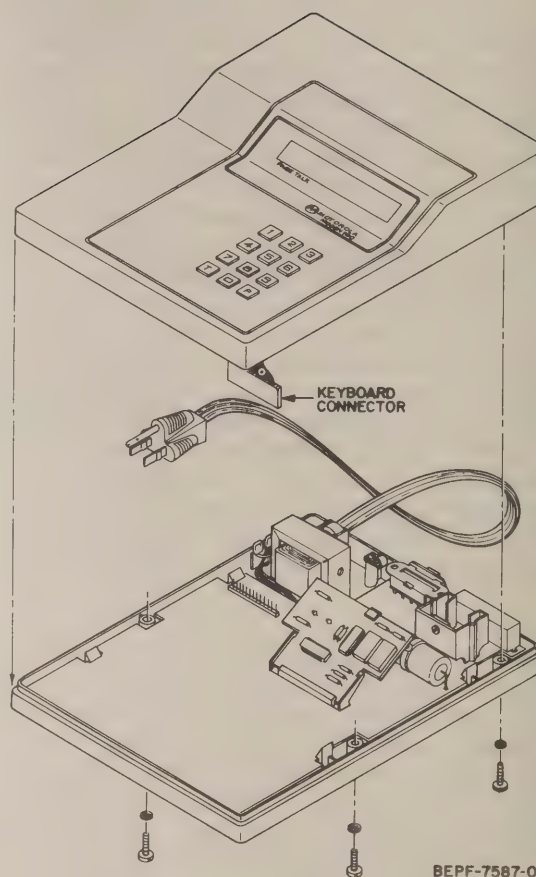

Figure 20. Housing Top Removal
- (3) Carefully remove the top of the housing, and disconnect the keyboard cable from the main circuit board. Refer to Figure 20.